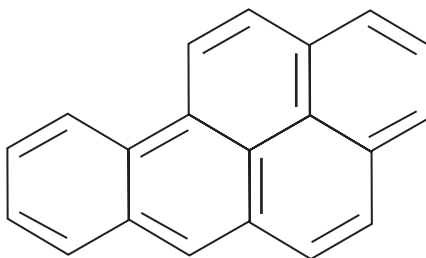

Figure 19.7
14 Benzene is different than the other chemicals in this list of compounds. It is a cyclic molecule with three *double* bonds. It is the simplest of the so-called aromatic compounds. A double bond means that the elements involved in the bond share *two* pairs of electrons. Quite often you see aromatic compounds represented with inner circles rather than the line representation for double bonds. Sharing the electrons in the way that benzene and other aromatic compounds do makes them stable. Conversely, non-cyclic molecules, which contain double (or triple) bonds are very reactive. An example of a simple linear molecule is *pentane* which will be seen when discussing gasoline combustion. The structure of an aromatic chemical more complex than benzene is seen in Figure 19.7.
- **PAHs** (polycyclic aromatic hydrocarbons) are formed in small amounts, but a number are very toxic. Observe in **Figure 19.7** the structure of benzo[*a*]pyrene (BaP), a carcinogenic and mutagenic PAH.28 Also see **Box 19.3**.
The double lines shown in the BaP structure (Figure 19.7) represent double bonds, i.e., the atoms involved share two pairs of electrons. However, saying that two carbon atoms share two pairs of electrons in such rings is a simplification; rather the electrons are “spread” among the carbons. The atoms that make up BaP are not shown because it is assumed that the carbons and the hydrogens are present; each apex represents a carbon atom. Benzene, the simplest aromatic ring compound has a formula of  $C_6H_6$ . Examine the BaP molecule and determine why each ring is able to have less than six carbons.